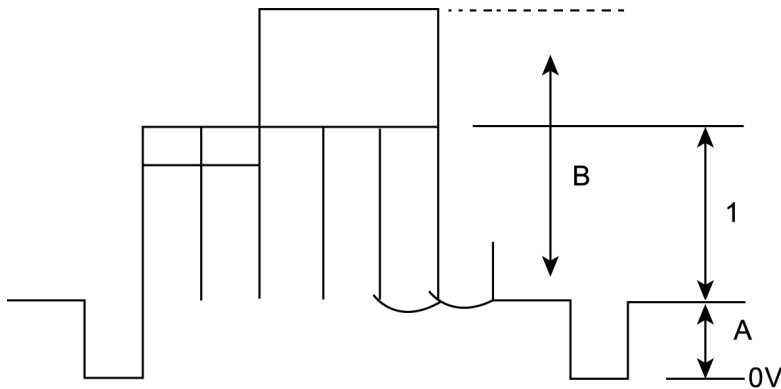

Fig. 4
6. Set (A) to $2.3 \pm 0.2V$ by BRT (CHK2) at measurement point TPL 2 Fig. 4.
1. Connect oscilloscope probe to TPL 2 (G OUT) with $10k\Omega$ series resistor and adjust Contrast so that (B) as in Fig. 4 is $2.6 \pm 0.05V$.
2. Adjust "Sub Colour" so that waveform as in Fig. 4 (1) $2.5 \pm 0.1V$.